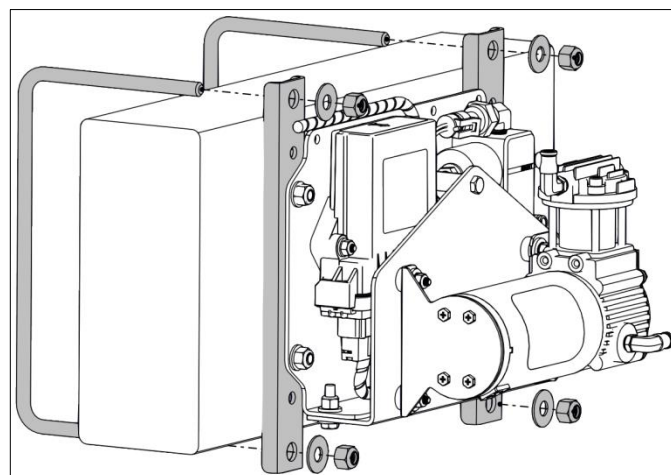

Figure 1C
- Check for clearance along the frame rail to ensure that the kit will not interfere with anything once installed. Refer to Figure 1C.
*Mount the control board as high as possible on the frame rail and in the orientation shown in Figure 1C.*
- Securely install the Control Board Assembly onto the frame rail of the vehicle using 2 U-bolts, 4 flat washers, and 4 Nyloc nuts. Refer to Figure 1C.